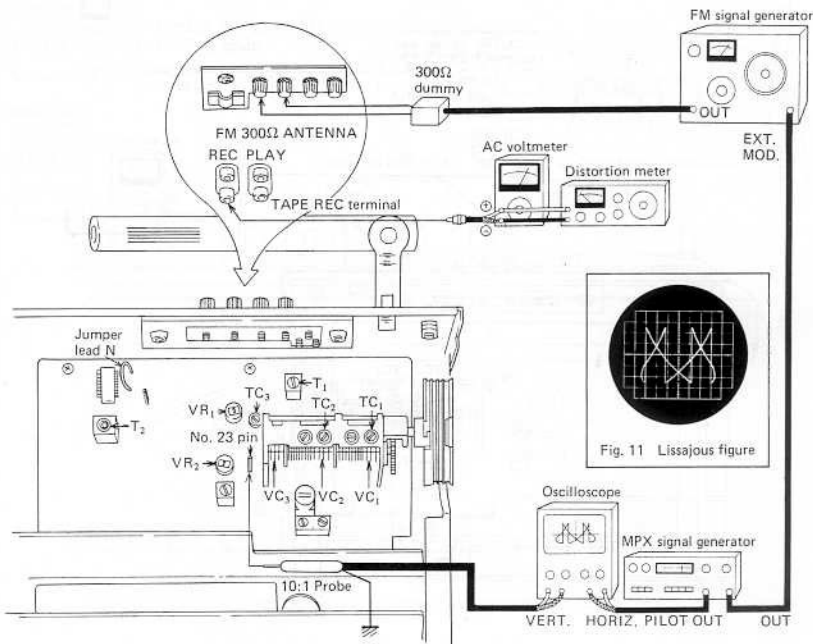

Fig. 10 Connection diagram for FM tuner adjustment
1. Connect the test instruments as shown in Fig. 10.
23. Turn the FM MUTING switch to ON, and check the muting threshold. If the muting threshold is more than 28dB, cut the jumper lead N (Fig. 10).